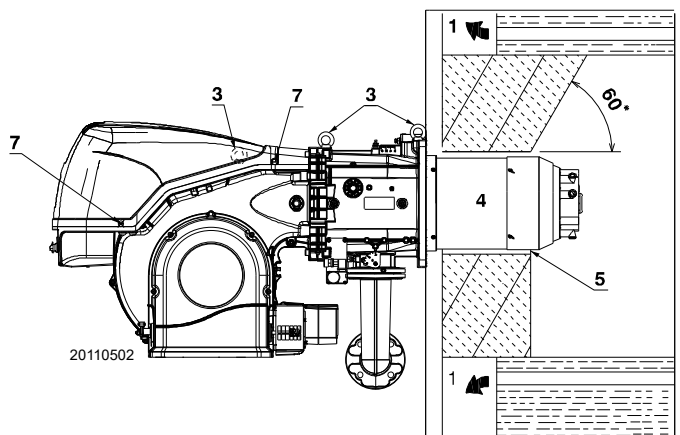

Fig. 13
For boilers with front flue passes 1)(Fig. 13) or flame inversion chamber, a protection in refractory material 5) must be inserted between the boiler fettling 2) and the blast tube 4).
Prepare a suitable lifting system using the rings 3)(Fig. 13), after removing the fixing screws 7) of the casing 8).
- Fit the heat insulation supplied onto the blast tube 4)(Fig. 13).